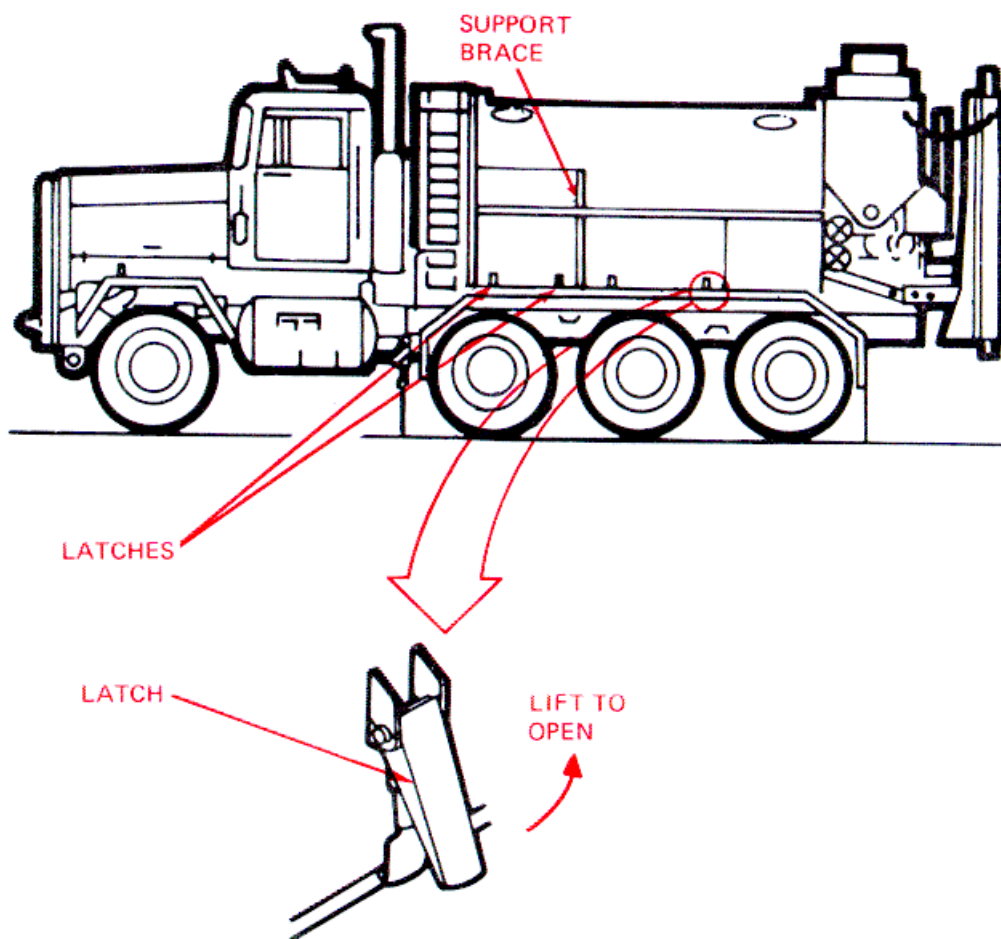

Figure 3-20. Access Panels.
- (3) Open the left side access panels. Use the props to hold them open (fig. 3-20).
- (9) Close the access panels (fig. 3-20).